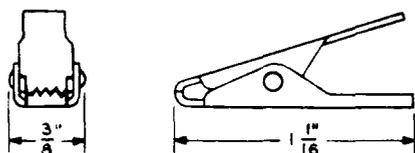

Fig. 15—KS-6780 Connecting Clip
**2.24 KS-6780:** The KS-6780 connecting clip tool (Fig. 15) is for general use on test cords when the clip is to be soldered to the cord. The jaws can be insulated by means of a 108 cord tip (insulating tubing).